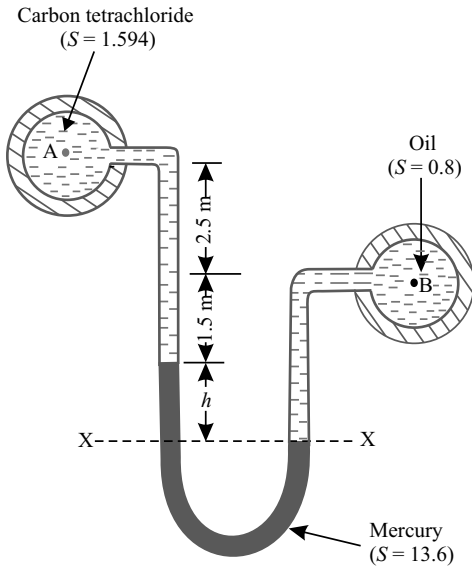

Fig. 2.41
4. As shown in Fig. 2.41, pipe A contains carbon tetrachloride of specific gravity 1.594 under a pressure of 103 kN/m^2 and pipe B contains oil of specific gravity 0.8. If the pressure in the pipe B is 171.6 kN/m^2 and the manometric fluid is mercury, find the difference h between the levels of mercury. [Ans. 142 mm]